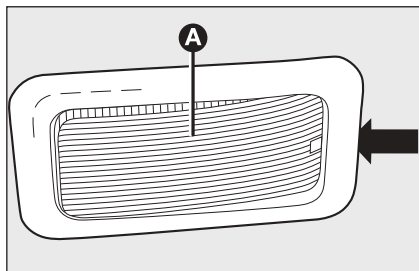

fig. 32
- ☐ using the screwdriver provided, extract the ceiling light **A**-fig. 32 working in the point indicated by the arrow;